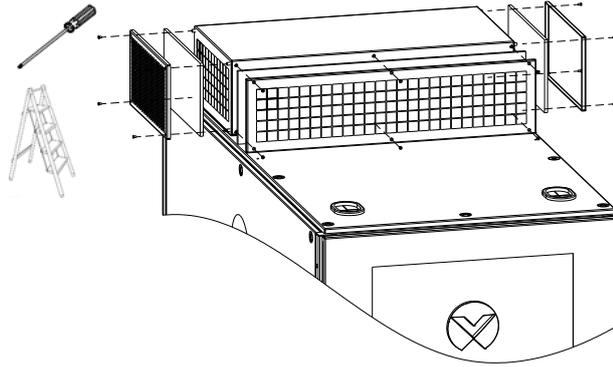

Figure 4-3 Replace Filter of ECO Fan Module
2) Remove the (14 pcs) fixing screws of the filter hood and remove the old filter, as shown in Figure 4-3.